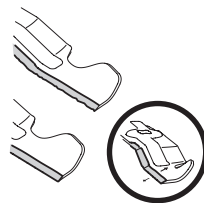

Figure 39
4. To properly sharpen the cutting blades, remove equal amounts of metal from both ends of the blades along the cutting edges, parallel to the trailing edge, at a 25° to 30° angle. Always grind each cutting blade edge equally to maintain proper blade balance (Figure 39).